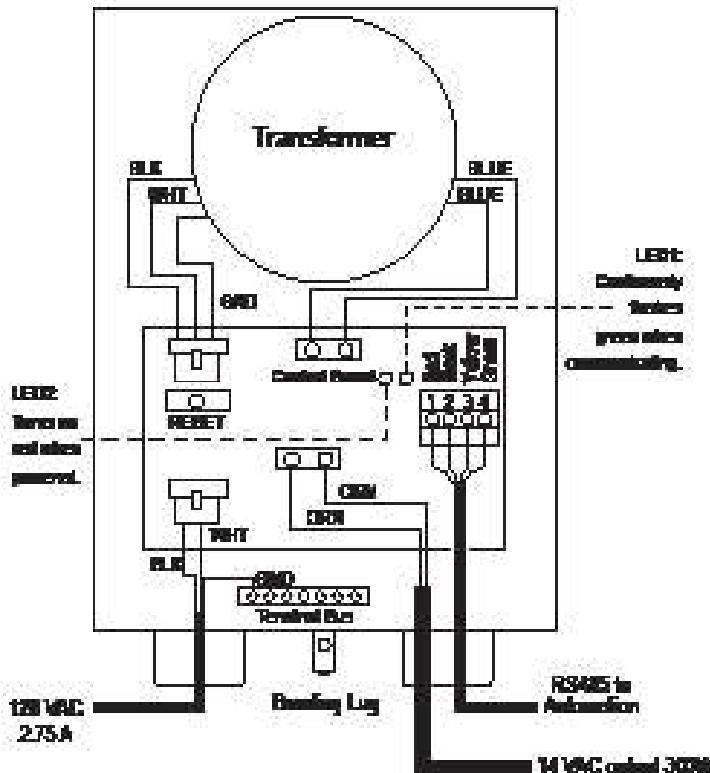

Figure 8. Wiring Infinite WaterColors LED Laminar Jets to the Light Controller
3. Use wire nuts to connect the low voltage wires, black wire from Laminar Jet to orange wire from Light Controller and white wire from Laminar Jet to orange wire from Light Controller, see Figure 8.